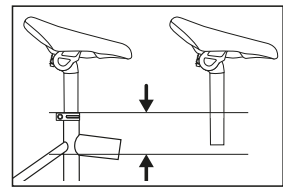

Fig. 3: Saddle height / minimum insertion depth
- ↳ Make sure that the saddle is set to the correct height. When adjusting the saddle height, maintain the minimum insertion depth of the seat post (see Fig. 3). A mark on the seat post indicates the minimum insertion depth.